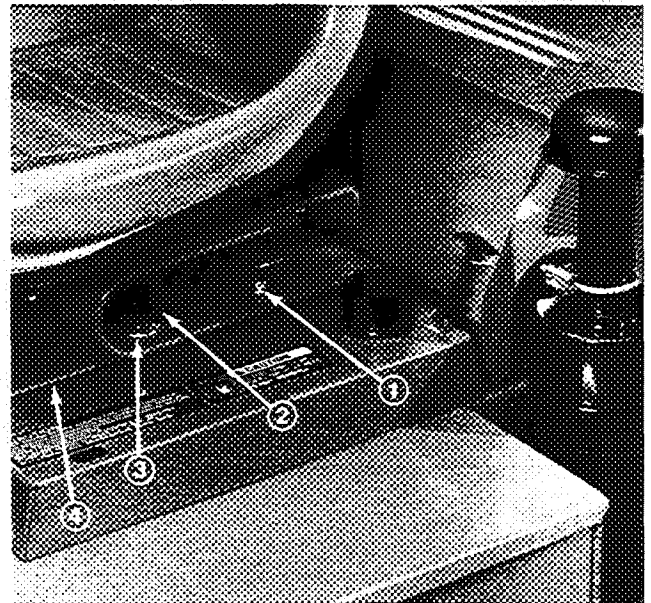

Figure 3
3. Mount seat and spring assembly to rear holes in traction unit mount plate with two shoulder bolts, flat washers and locknuts (Fig. 3).
4. Secure front slots of seat springs to mount plate with adjustment handles and flatwashers (Fig. 3).